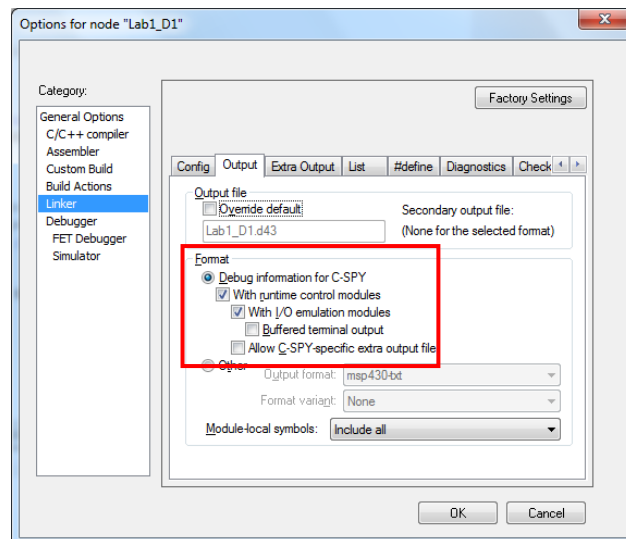

Figure 8. XLINK options dialog box.
3.1. Select the project folder icon Lab1_D1 - Debug in the Workspace window and choose *Project>Options* (Figure 8). Then select Linker in the Category list to display the XLINK option pages. For this tutorial, default factory settings are used. However, pay attention to the choice of output format and linker command file.